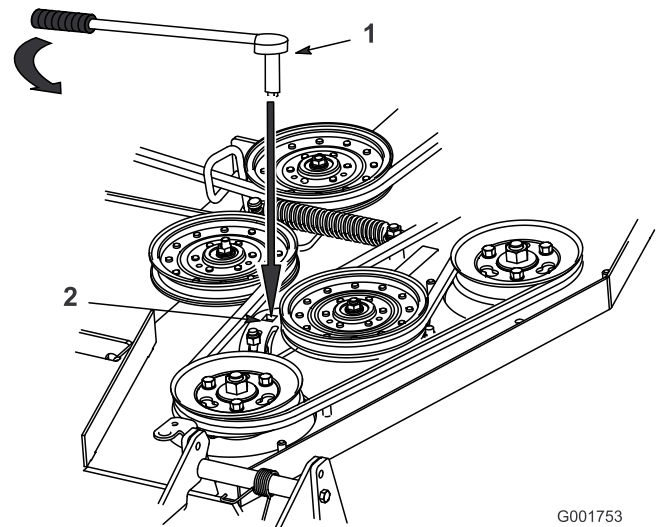

Figure 50
- If adjustment is required, loosen the idler plate to adjust it (Figure 50).
- Insert a ratchet or breaker bar into the square hole in the idler plate to adjust the tension (Figure 50).
- To increase belt tension, rotate the ratchet or breaker bar to move the fixed idler until you feel increased resistance and the spring-loaded idler pulley stops moving (Figure 50).
- While holding the belt tension, tighten the idler plate bolts that secure the idler plate (Figure 50).
- Adjust the belt tension and the idler plate, if necessary, and tighten all hardware securely (Figure 50).